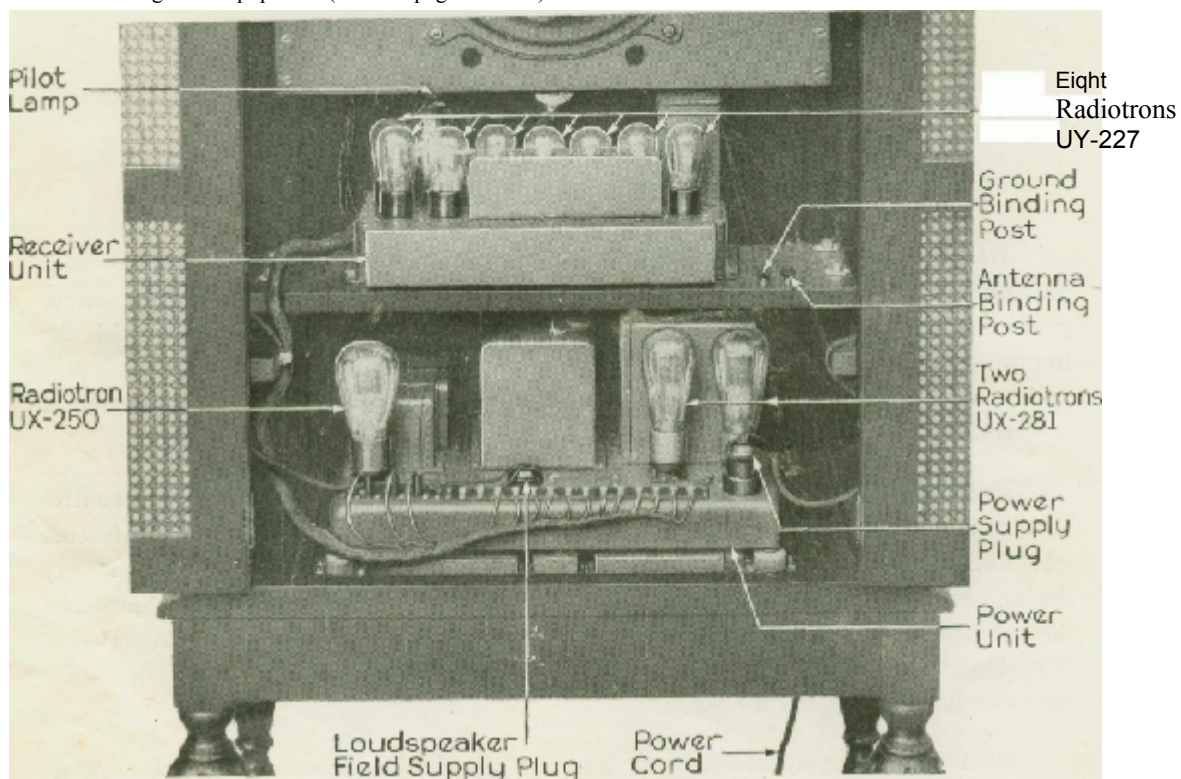

Fig. 2—Rear View with Doors Open
**Antenna and Ground**—Run the wires from the antenna and ground through the hole in the bottom of the cabinet and connect to the proper binding posts as shown in Fig. 2. Insulated wires only should be run inside the cabinet. Satisfactory reception is dependent upon proper installation of the antenna and ground. (See pages 8 and 9.)
**Pilot Lamp**—The pilot lamp socket is located within the cabinet above the Selector scale as shown in Fig. 2. Remove the socket clamp from the fixed bracket (see Fig. 3) and screw the pilot lamp securely into the socket. Replace the socket clamp on its bracket. Always switch off the power before removing the pilot lamp.
Insert the UY-227 Radiotrons in their proper sockets as shown in Fig. 2. Place the UX-250 Radiotron and the UX-281 Radiotrons in their proper sockets by following the markings on the power unit. (See Fig. 4.)